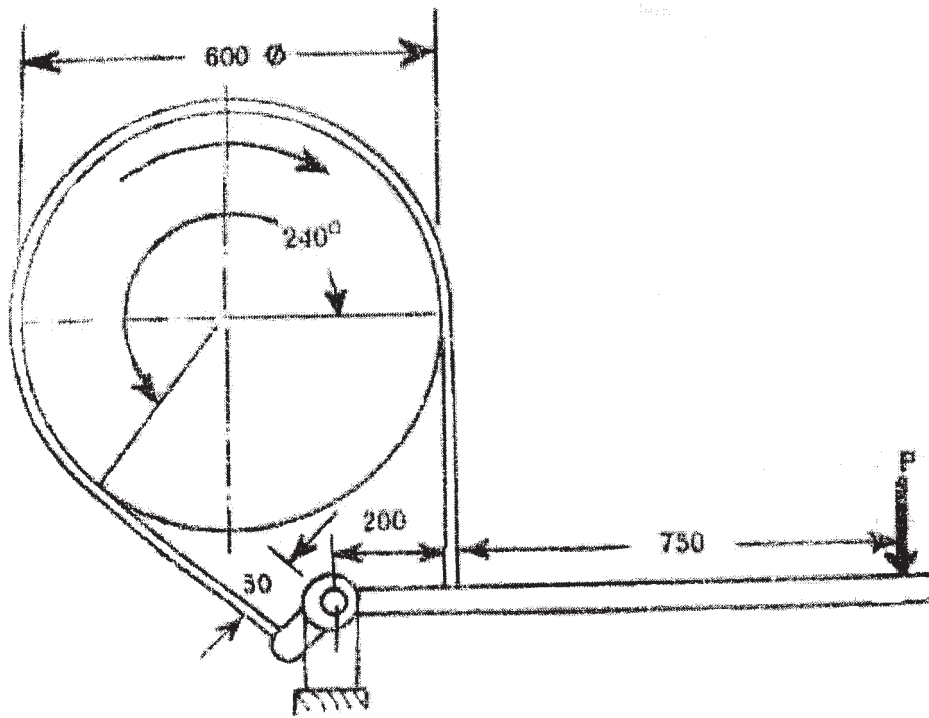

Figure 2
- Q3)** a) A differential band brake is shown in figure 2. The width and thickness of the still band are 100 mm and 3 mm respectively and the permissible tensile stress in the band is limited to 50 N/mm². The coefficient of friction between the friction lining and the brake drum is 0.25. Calculate: